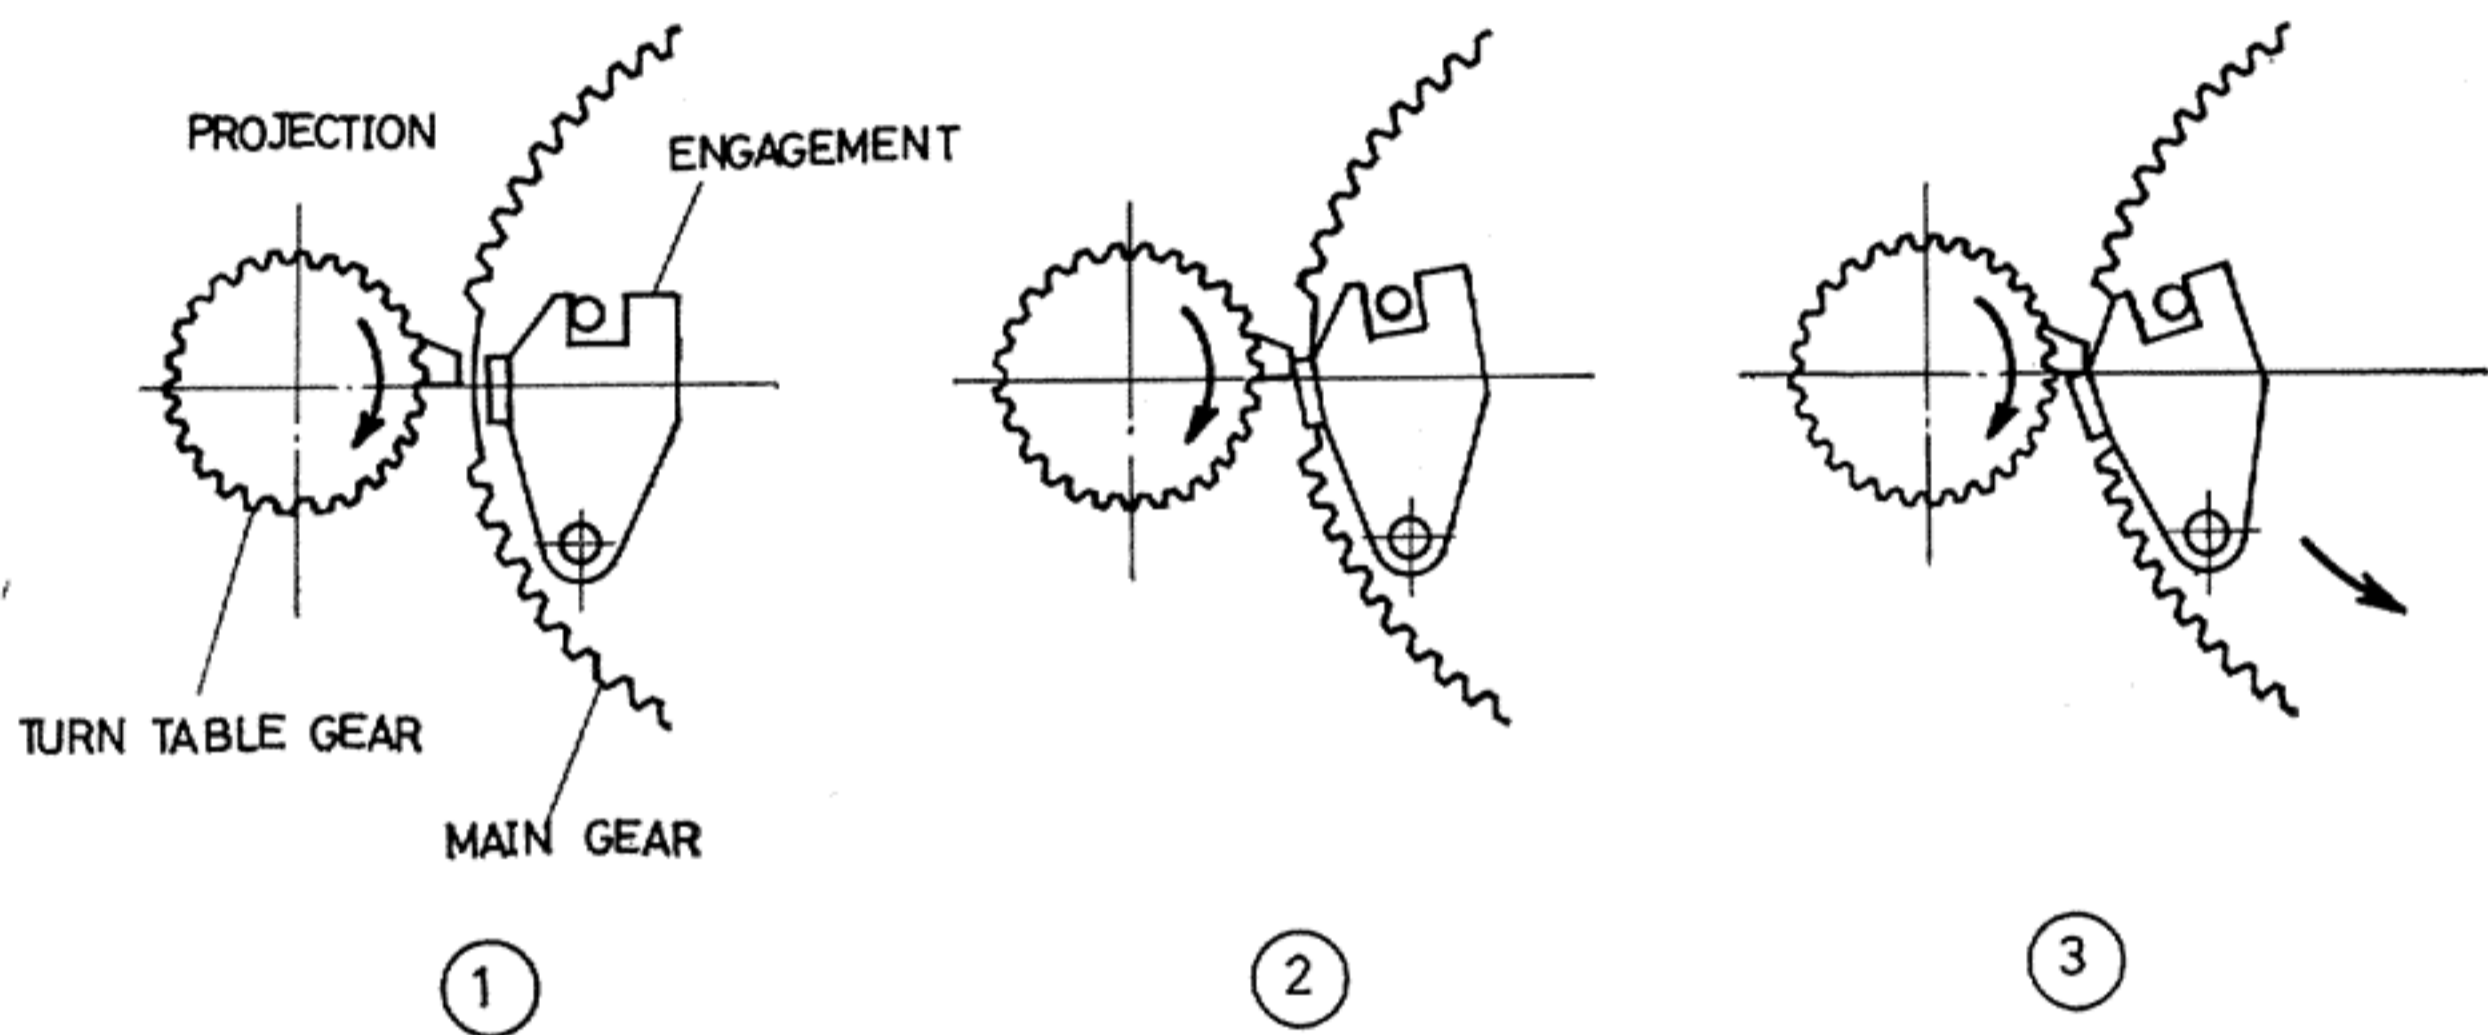

Fig. 6
## CHANGE CYCLE START (Fig. 6)
- b. The Engagement of Main Gear interlocks with the Projection of Turntable Gear (Fig. 6) revolving the Main Gear in the direction shown by the arrow. This starts the Change Cycle.
- c. ① of Fig. 6 indicates the position of Main Gear at rest.